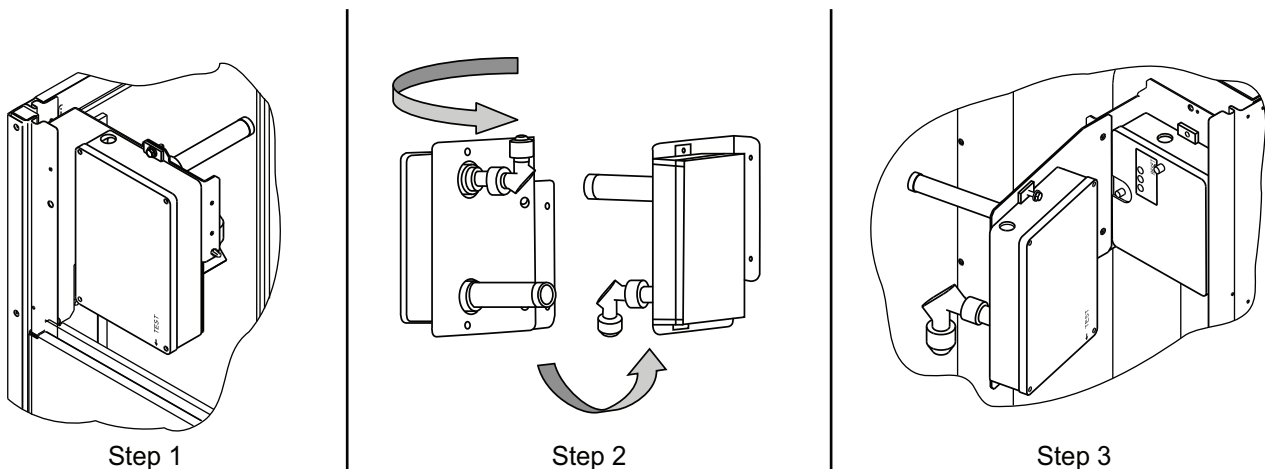

Fig. 71 — Completing Installation of Return Air Smoke Sensor
2. Unscrew the two screws holding the return-air smoke detector assembly. See Fig. 71, Step 1.
4. Turn the assembly 90 degrees and then rotate end to end. Make sure that the elbow fitting is pointing down. See Fig. 71, Step 2.
5. Screw the sensor and detector plate into its operating position using screws from Step 2. See Fig. 71, Step 3.